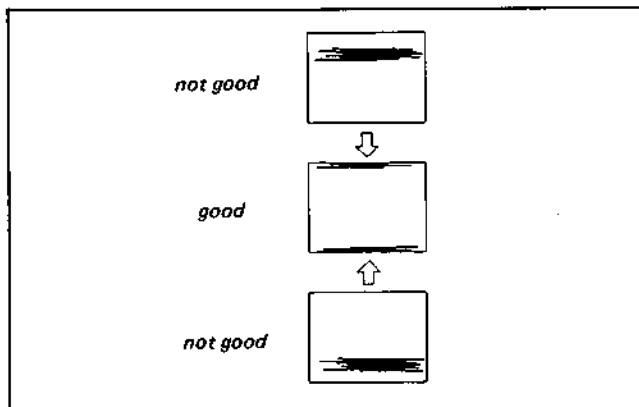

Fig. 5-20. CTL delay adjustment
- (1) Set the TRACKING knob to the center click position.
- (2) Adjust RV901 so that noise bars on the TV monitor screen disappear from the screen top or bottom (or are kept to a minimum). (See Fig. 5-20)